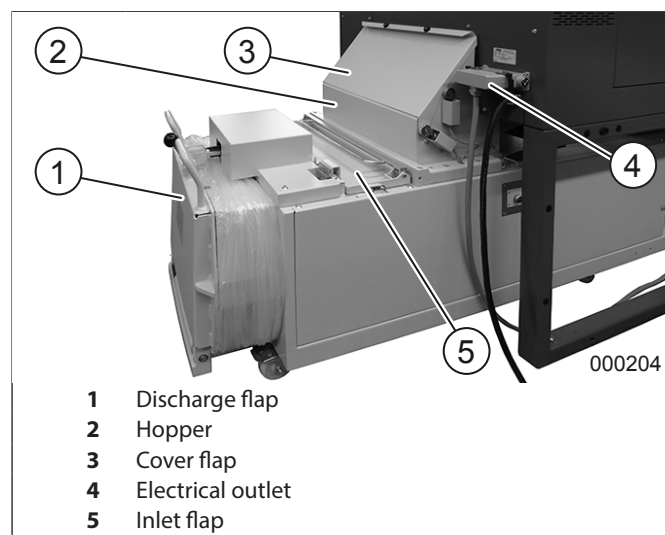
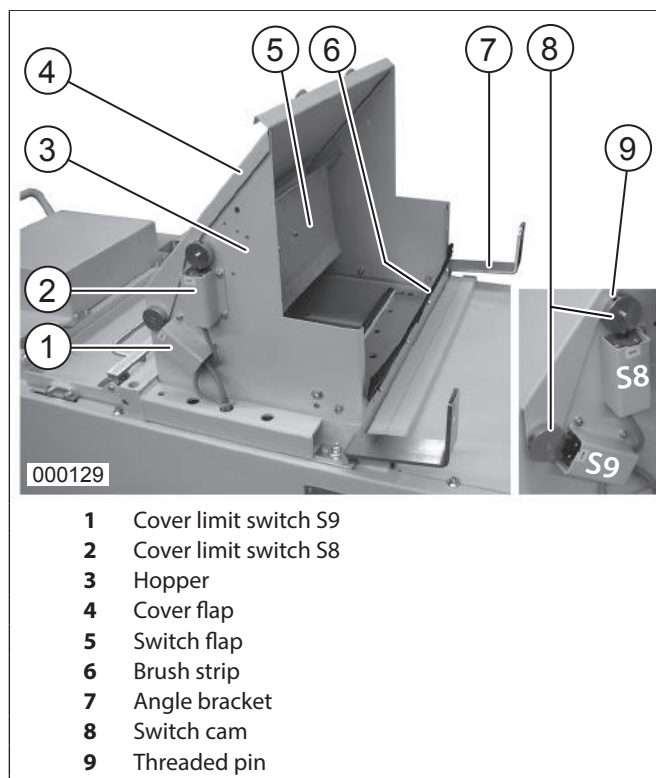
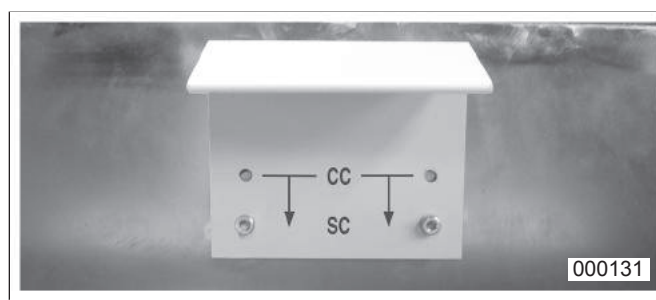

fig. 1 Flaps and hopper
fig. 2 Hopper
fig. 3 Security angle jam crowding
1. Release the transport lock (binder) on the outlet flap (fig. 1/1) and fold the flap down.
2. Take the hopper (fig. 1/2) out of the press compartment, as shown, place over the filler opening and fix to the press from inside with the aid of the 7 hexagon socket screws M6x12.
3. Swivel the brush strip (fig. 2/6) on the hopper up until the brush is pointing in the direction of the press compartment. Fix the brush strip to the hopper in this position with the two M6x16 hexagon socket screws and washers provided (use upper hole for fixing).
4. Remove both switch covers (fig. 2/1+2). Fix the limit switch S8 with 2 screws M4x40 and nuts M4 below the switch cam of the switch flap (fig. 2/8). Undo the threaded pin (fig. 2/9) (Allen key 2.5 mm), turn the cam into position and tighten the threaded pin again.
5. Fix the limit switch S9 with 2 screws M4x40 and nuts M4 under the switch cam of the cover flap (fig. 2/4). Undo the threaded pin (fig. 2/9) (Allen key 2.5mm), turn the cam into position and tighten the threaded pin again.
6. Position the two switch covers (fig. 2/1+2) over the limit switches and fix each to the hopper with two screws M5x16 and nuts M5.
7. Open cover flap (fig. 2/4). Check/correct position of security angle (fig. 3):
1. Push the baler under the shredder. Screw the shredder and the baler together with the aid of the two fixing brackets (fig. 2/7) provided with the shredder (fig. 1).
4. Insert and secure the connecting plug of the baler in the electrical outlet (fig. 1/4) at the housing rear panel.